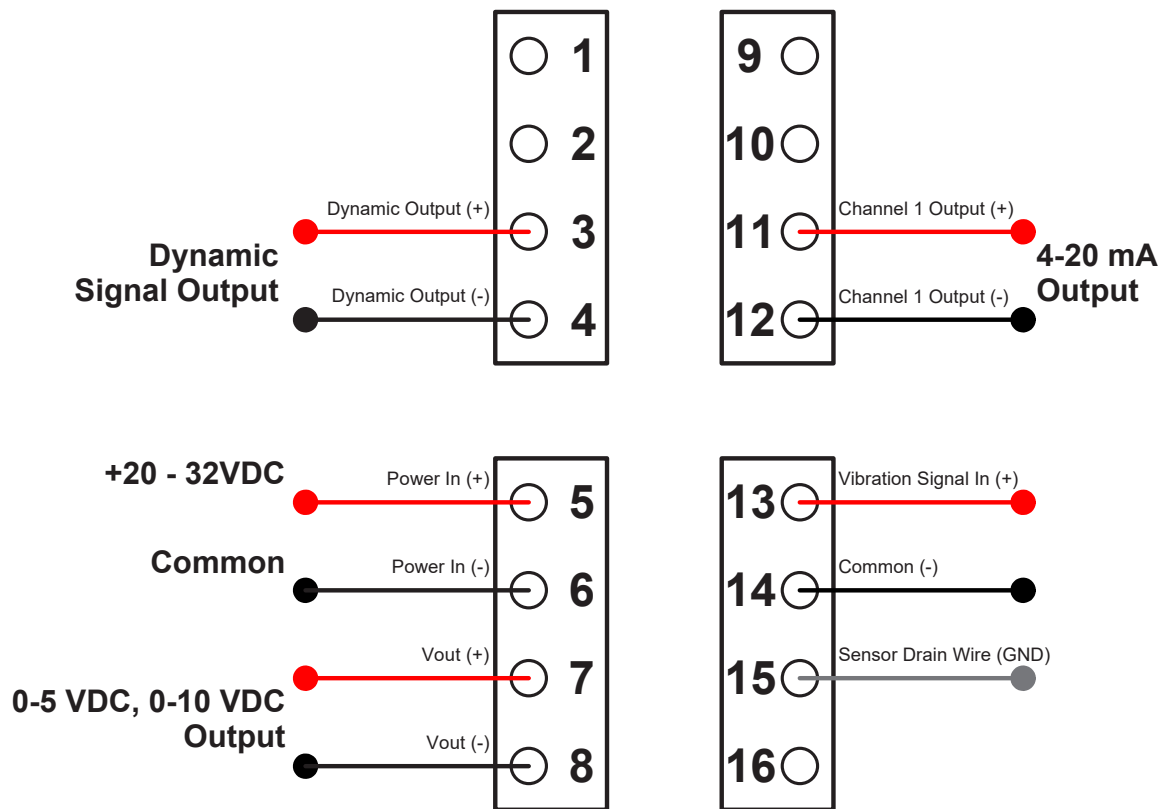

Figure 1. Signal Conditioner Electrical Wiring Diagram for Single Channel IEPE Accelerometer Input
2. For single-axis accelerometer input connection, wire the sensor leads to 13(+), 14(-), and 15(shield drain wire) as shown in Figure 1.